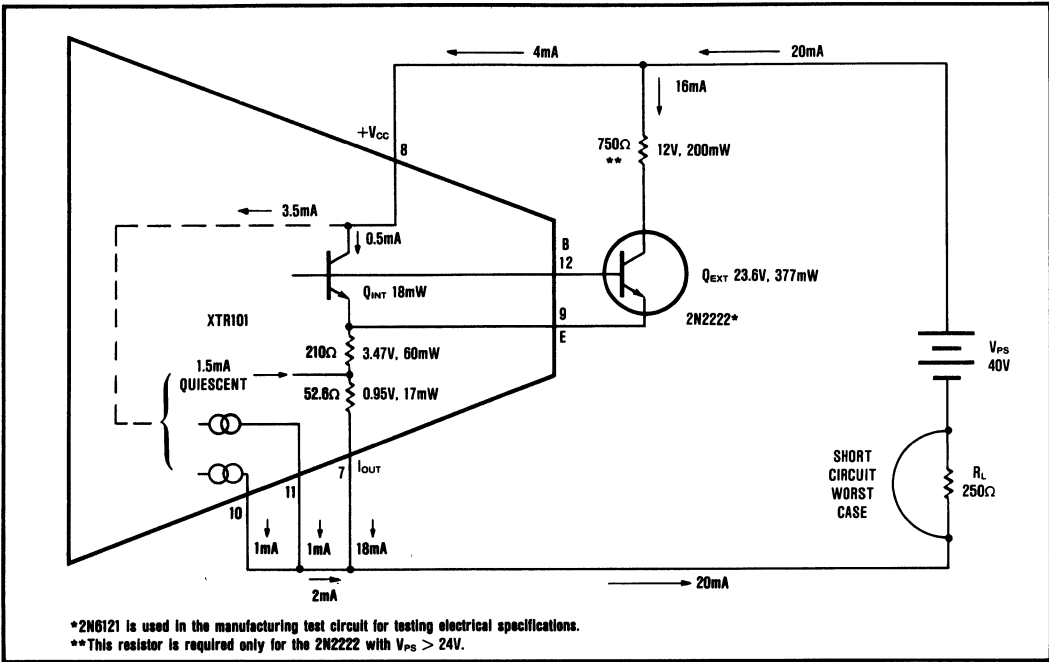

FIGURE 2. Power Calculation of XTR101 with External Transistor.
The optional external transistor, when used, is connected in parallel with the XTR101's internal transistor. The purpose is to increase accuracy by reducing heat change inside the XTR101 package as the output current spans from 4mA to 20mA. Under normal operating conditions, the internal transistor is never completely turned off as shown in Figure 2. This maintains frequency stability with varying external transistor characteristics and wiring capacitance. The actual "current sharing" between internal and external transistors is dependent on two factors: (1) relative geometry of emitter areas and (2) relative package dissipation (case size and thermal conductivity). For best results, the external device should have a larger base emitter area and smaller package. It will, upon turn on, take about [0.95 (I_O - 3.3mA)]mA. However, it will heat faster and take a greater share after a few seconds.
1. 2N2222 in the TO-18 package. For power supply voltages above 24V, a 750Ω, 1/2W resistor should be connected in series with the collector. This will limit the power dissipation to 377mW under the worst-case conditions shown in Figure 2. Thus the 2N2222 will safely operate below its 400mW rating at the upper temperature of +85°C. Heat sinking the 2N2222 will result in greatly reduced accuracy improvement and is not recommended.